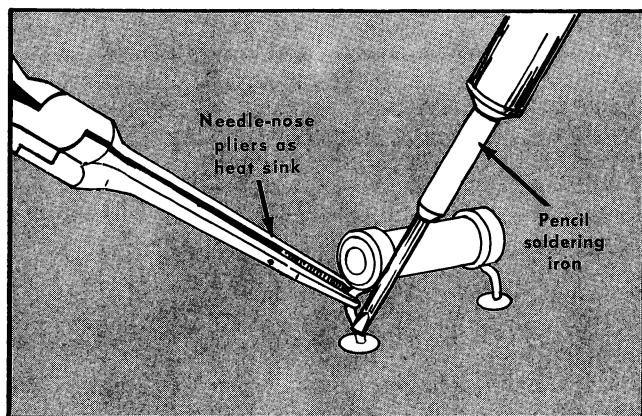

Fig. 4-5. Use of a heat sink to protect components during soldering.
4. Touch the iron to the connection and apply a small amount of solder to make a firm solder joint; do not apply too much solder. To protect heat-sensitive components, hold the lead between the component body and the solder joint with a pair of long-nose pliers (see Fig. 4-5) or other heat sink.